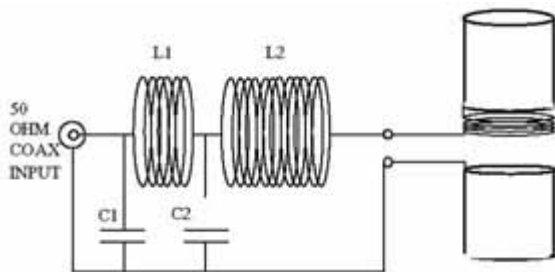

Figure 5 – A PREFERRED NETWORK TO FEED AN EH ANTENNA
A network that will handily provide this transformation is composed of an L network followed by a T network. If we choose to allow the L network to transform from 50 to 25 ohms, there will be a corresponding phase delay of 45 degrees. Therefore, that amount of phase delay can be subtracted from 179.5 to give 134.5 degrees, the necessary design value for the T network. With that information, you can go to the web site of Dr. Grant Bingaman ([www.qsl.net/km5kg](http://www.qsl.net/km5kg)) and it will readily allow you to use a program to determine the component values of the network. By the way, if you do any experimenting, this program is a must. Another program written by Jack will be found in the tools section of this web site. A schematic of the network is shown in Figure 5. A T network is comprised of two coils and the L network has one. We have combined the input coil of the T network with the L network coil, thus the overall network has been reduced to two coils. For most implementations, I use a single coil with taps, except I place part of L2 between the dipole elements. There are two (2) reasons for this. First, if the feed wires going to the dipole are phased properly to cause the antenna to radiate, there will be radiation from the feed wires. A few turns at the antenna will cause a phase difference in the feed wires and prevent radiation from them. Secondly, there is a concern of high voltage, and this is reduced on the feed wires going to the antenna by the use of a coil as shown.